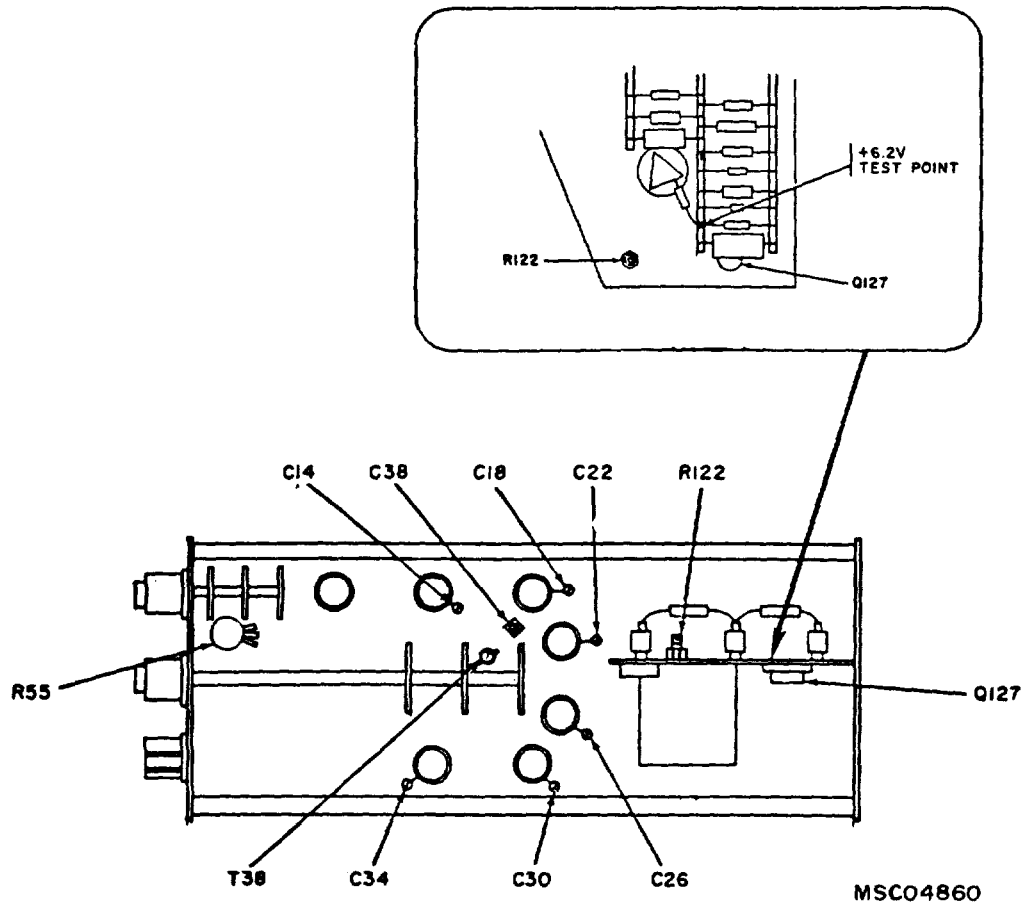
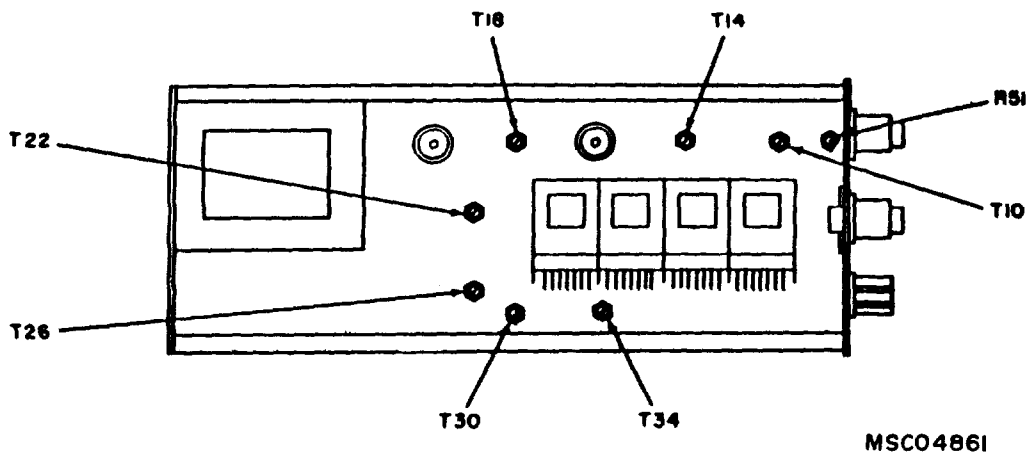

Figure 1. Test instrument - Right side view.
Figure 2. Test instrument - left side view
- (1) Connect negative side of digital voltmeter (A3) to collector of Q127 (fig. 1) and positive to center arm of potentiometer R55 (fig. 1) using leads (B5).
- (2) Set AMPLITUDE switch to 50 and AMPLITUDE RANGE switch to .5-5V.
- (3) Adjust potentiometer R55 for 1 V dc +.005-V indication on digital voltmeter (R).
- (4) Set AMPITUDE switch to 5.
- (5) Repeat a(l) above.
- (6) Adjust potentiometer R51 (fig. 2) for 0.177-V rms indication on digital voltmeter (R).
**b. Adjustments.** Adjust C14 (fig. 1) for frequency counter indication of 750 kHz (R).
**a. Performance Check.** Connect digital voltmeter (A3) between collector of Q127 (fig. 1) and chassis ground using leads (BS). If digital voltmeter does not indicate between -10.45 and -11.35 V dc, perform **b** below.
**b. Adjustments.** Adjust R122 (fig. 1) for -11 V dc indication on digital voltmeter (R).